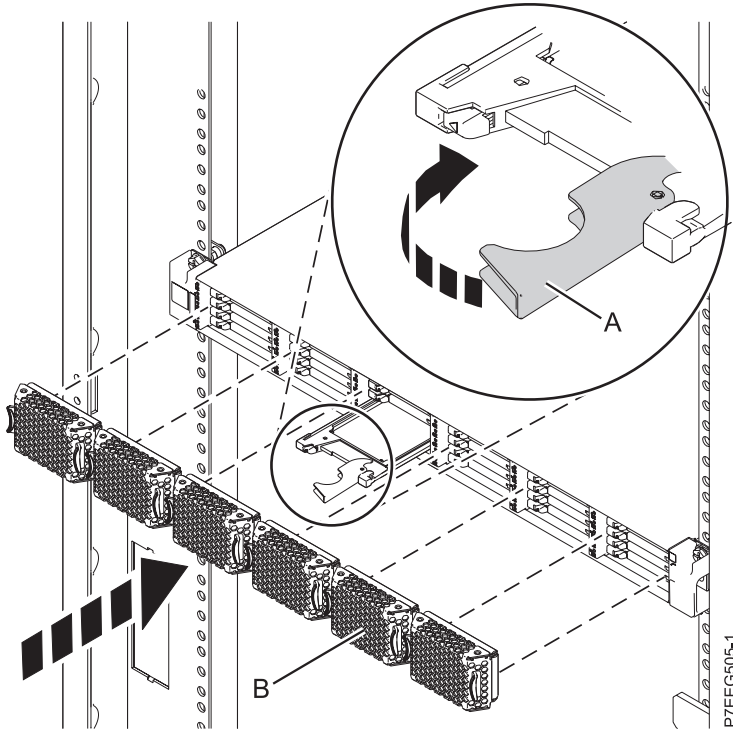

Figure 4. Installing a solid-state drive in the ED/R1 PCIe storage enclosure
1. With the handle in the unlocked position, align the solid-state drive with the guide rails in the enclosure. See Figure 4 on page 10.